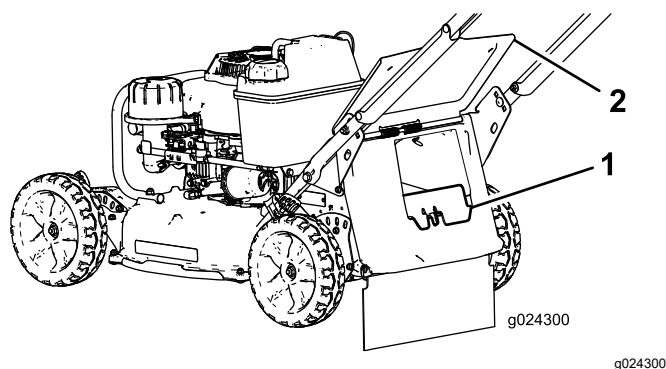

Figure 17
the rear-discharge chute until the latch locks into place (Figure 17).
3. Remove the rear-discharge plug by pushing in the latch with your thumb and pulling the plug out from the machine (Figure 17).